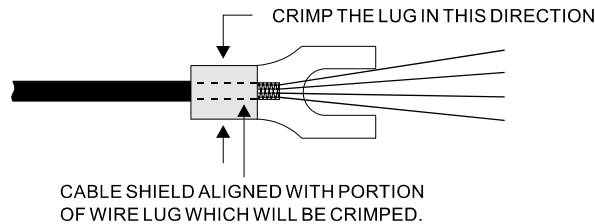

Figure 3a
- 2). Insert the cable through the lug as shown in Figure 3a.